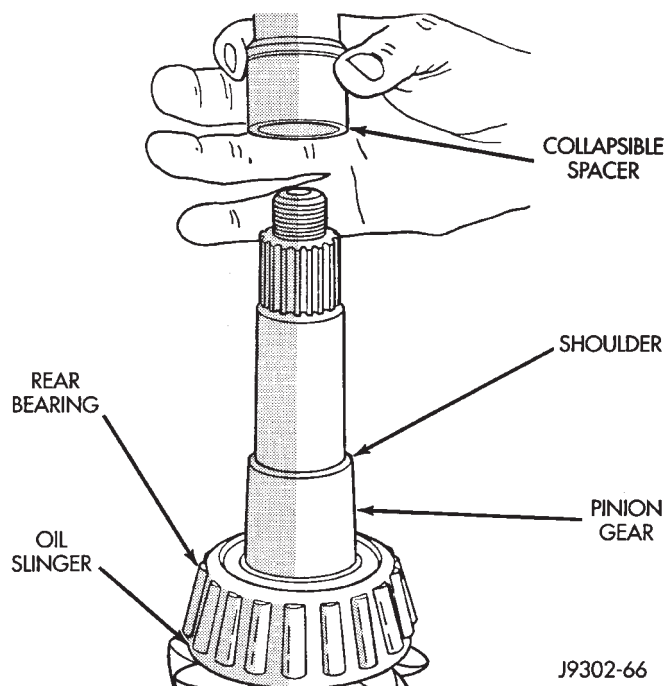

Fig. 41 Collapsible Spacer
(11) Remove the collapsible preload spacer (Fig. 41).